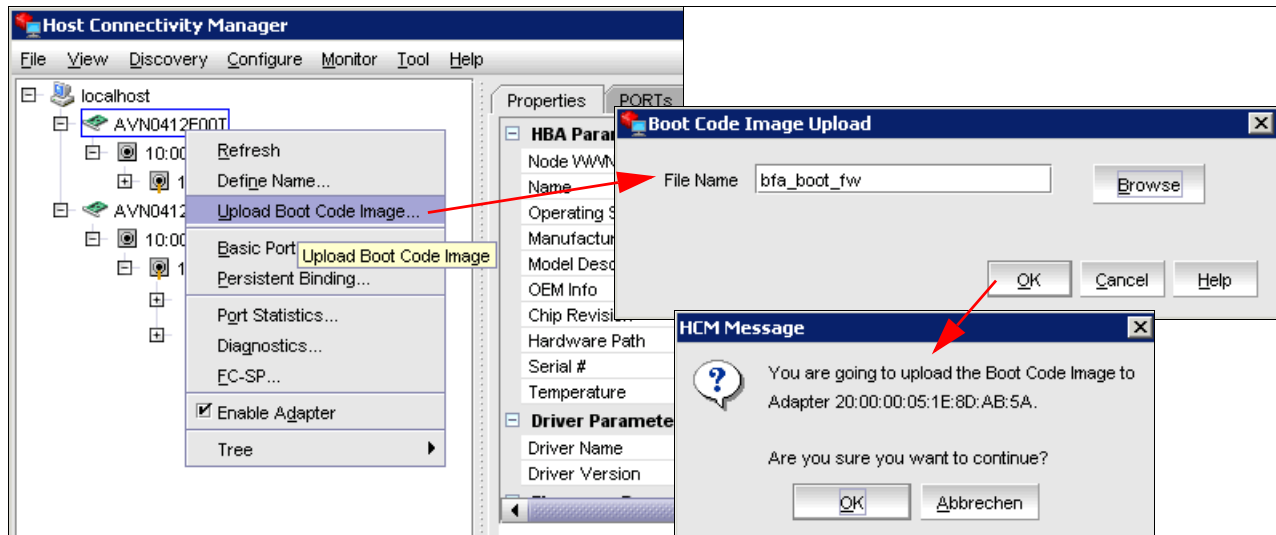

Figure 5-28 HCM update firmware
1. Start HCM and log in to the agent. The HCM window opens, as shown in Figure 5-28.